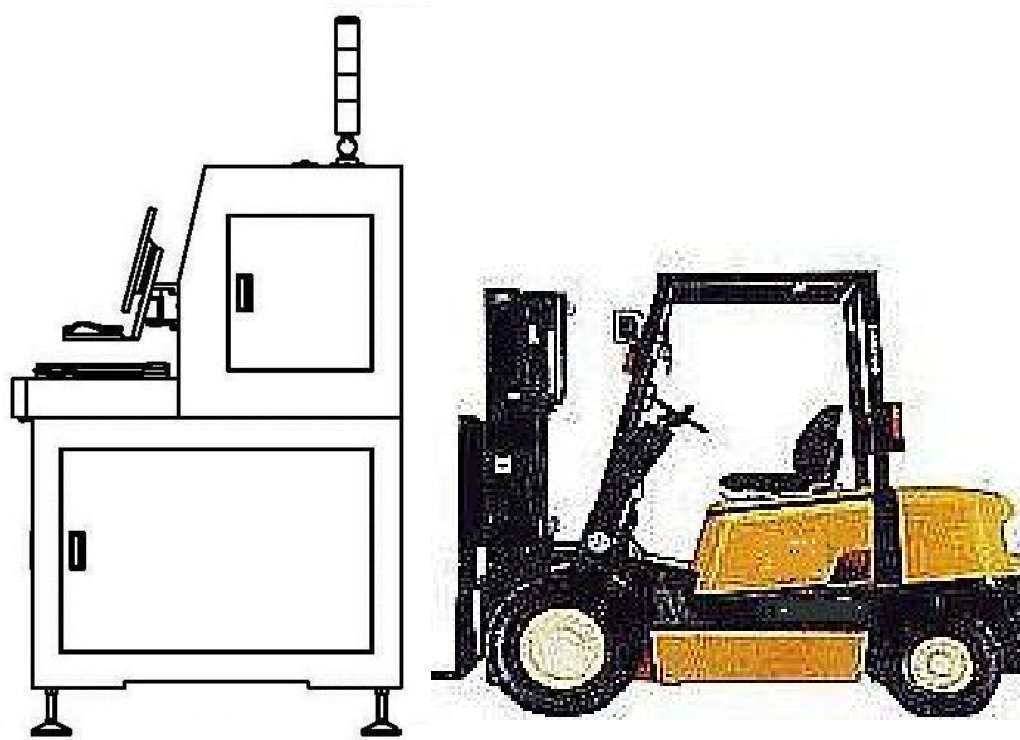

图 4-2-2
2. it is the only way to lift a machine that uses 1.5 tons or more of the pile up machine from behind the chassis. (for example, figure 4-2-2)